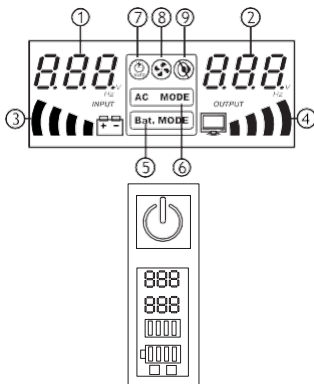

Figure 2 - **SMART** Series UPS display
**2 - LED display or LED operating mode indicator (Figure 2)**
The display of the **SMART** series UPS is shown in Figure 2.